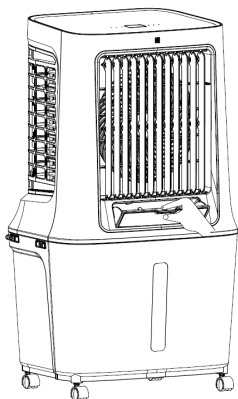
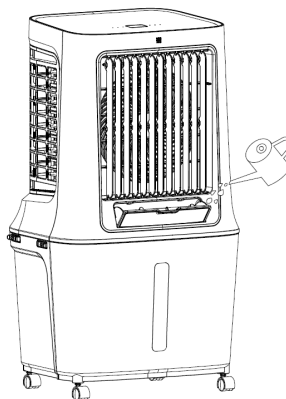

Figure 1
Figure 2
- 1) Before adding water, open the water inlet gate and slowly pour water into the water tank (Figure 1 and Figure 2): After adding the water, close the water gate again.